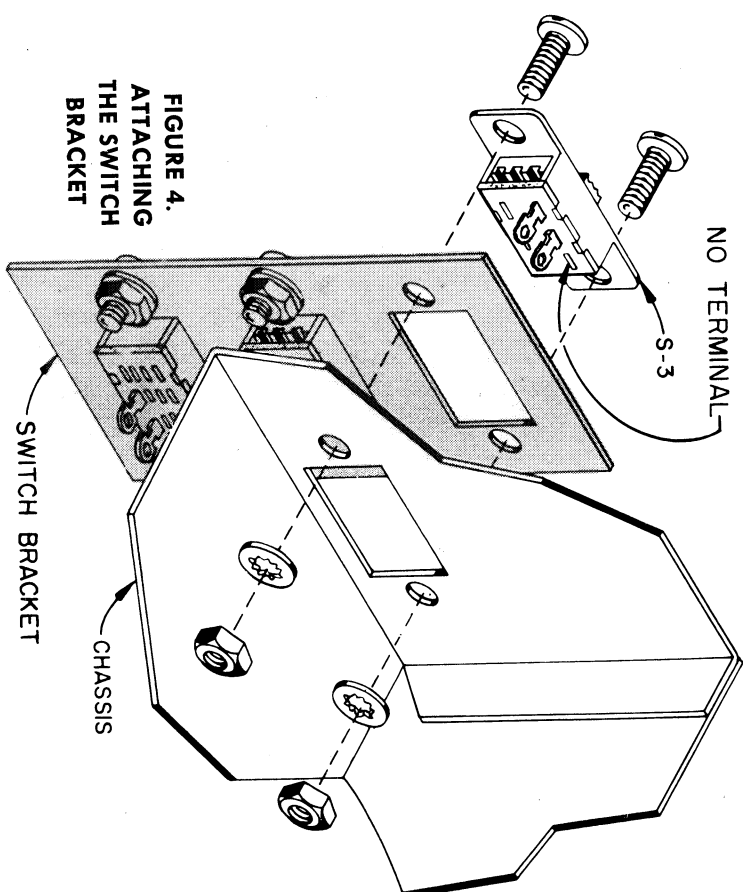

FIGURE 4.
- ☐ S-3, the remaining white-button slide switch. Hardware used to mount S-3 will also be used to attach the switch bracket to the chassis. *Position S-3 on the switch bracket so the end without a terminal is placed, as shown in Figure 4.* Insert two 4-40 screws through S-3, through the switch bracket and through the chassis. Fasten with two lockwashers and nuts.